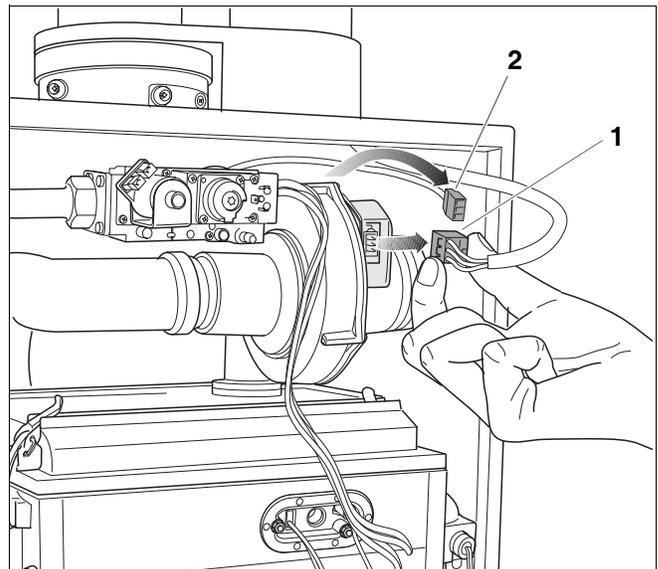

Fig. 81 Removing the connectors from the fan
- Pull the mains connector (fig. 81, pos. 1) from the fan.
- Pull the connector of the harness (fig. 81, pos. 2) from the fan while pushing on the connector lock to loosen it.